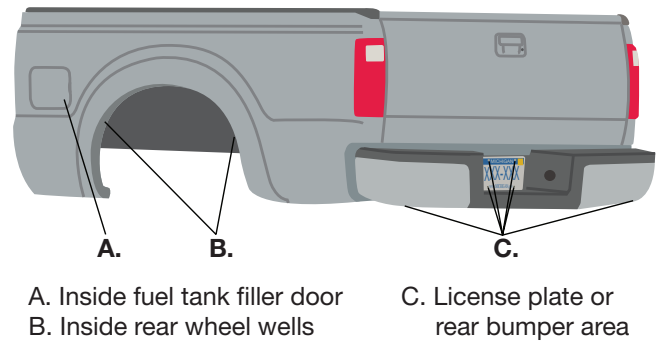

Fig. 38
1. Choose the locations for the Schrader valves and drill a 5/16" (8mm) hole, if necessary (Fig. 38).